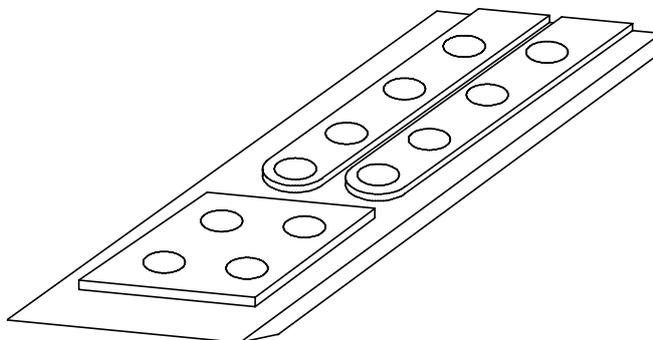

Figure 111. Peltier element.
- Afterwards, the chuck together with the specimen is inserted with the peg into one of the four front fast freezing stations (fig. 111). These four front fast freezing stations are equipped with a Peltier cooling element.